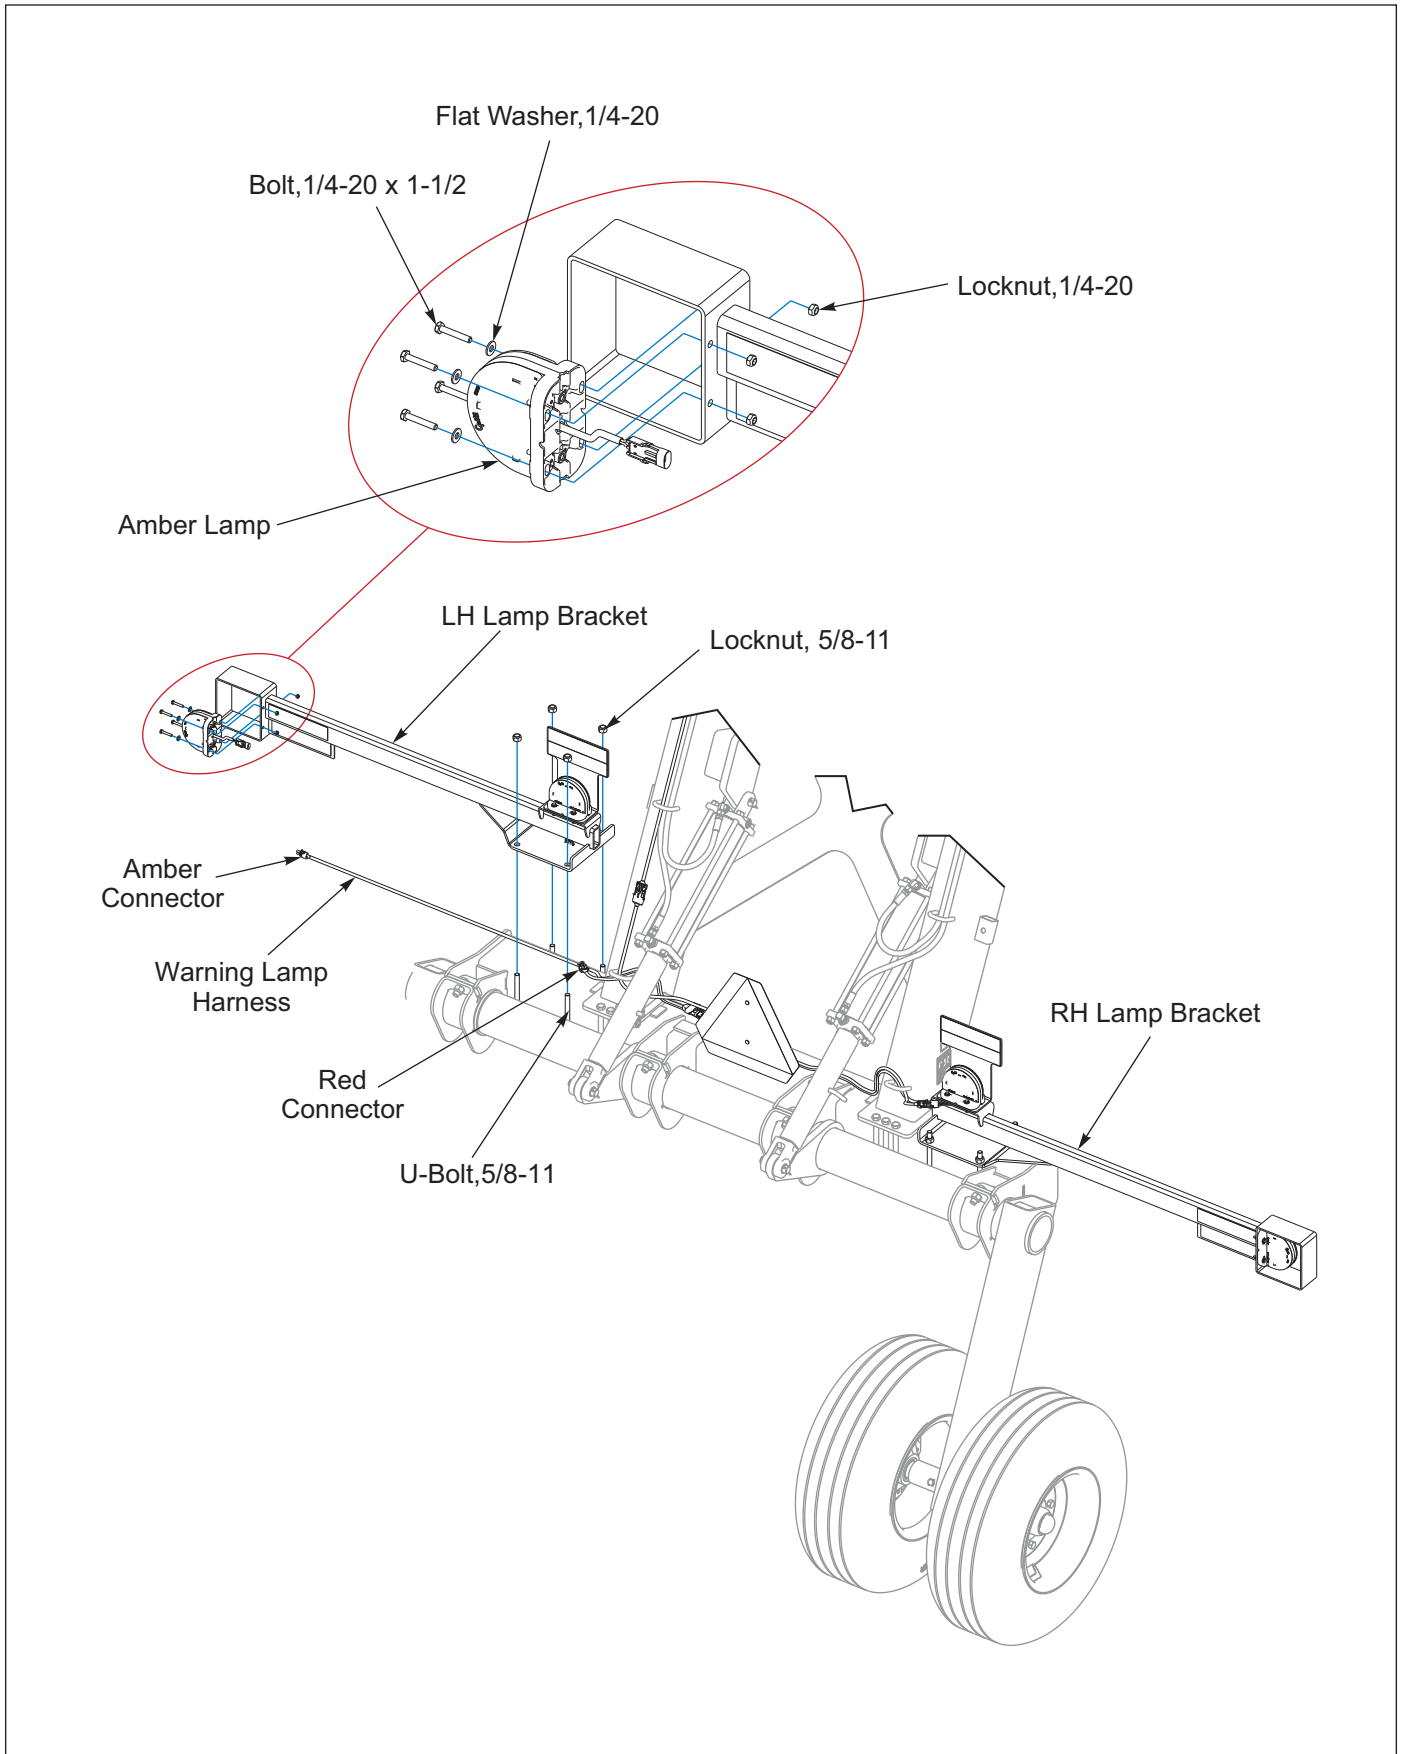

Figure 2-13: LED Warning Lamps Installation
1. Attach the Left and Right Lamp Brackets with 5/8-11 U-Bolts and Locknuts. See Figure 2-13.